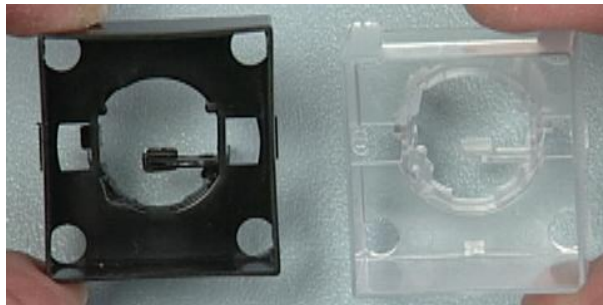

Figure 9
3. Now take the lens holder and look at the center. You can see the micro switch actuator arm. This arm is what activates the micro switch when the button is pushed. Make sure the open end is on the left with the arm attached to the right side. See Figure 9.